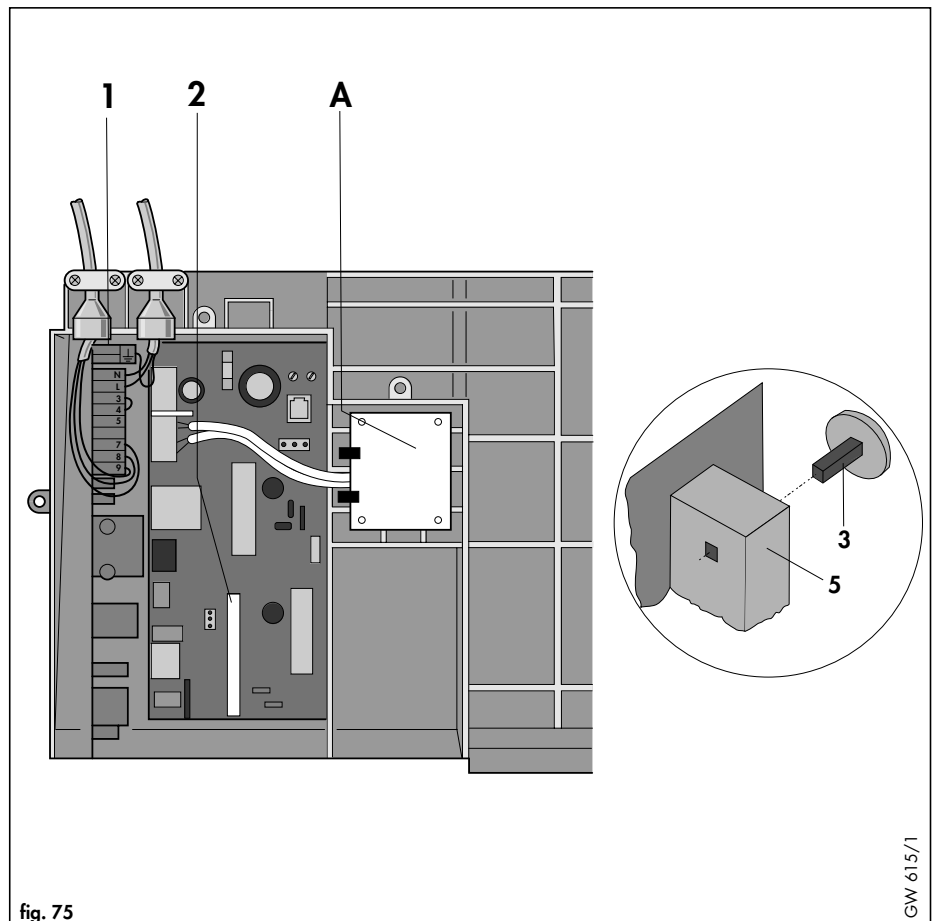

fig. 75
- Unplug ribbon cable from control board (2, fig. 75).
- Unplug all leads from the both boards (1, fig. 75).
**Note:** When refitting the control board, ensure that the user control spindles (3, fig. 75) are aligned with the potentiometer and control switch holes (5, fig. 75) and that the locating rib of the potentiometer/switch correctly engages in the groove of the control knob spindle. Also ensure that when refitting the main switchboard the on/off control knob spindle (3, fig. 75) engages correctly into the on/off switch (5, fig. 75) mounted on the board.